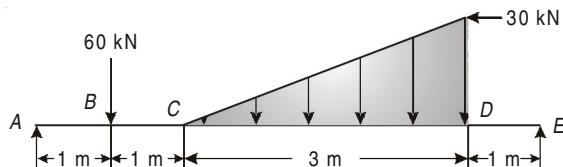

Fig. 4.43
- 4.27.** Determine the deflections at point B and C of the beam shown in Fig. 4.43 using Macaulay's method. Take $E = 200 \text{ GPa}$, $I = 19802.8 \text{ cm}^4$.